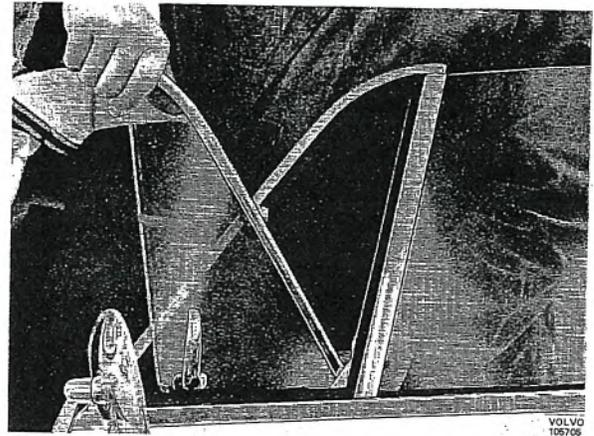

Fig. 8-25. Taking out ventilation window without frame
3. Open the ventilation window completely and press it downwards so that its upper pivot pin unhooks, after which the window can be removed (Fig. 8-25).